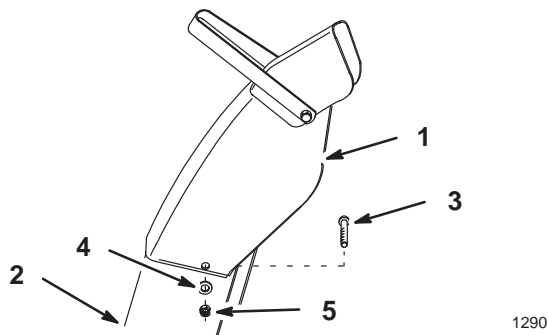

Figure 5
9. Assemble upper discharge chute section outside and on top of lower section with (2) 5/16 x 5/8" carriage bolts (heads on inside), (2) 5/16" washers and (2) 5/16" locknuts (Fig. 5).